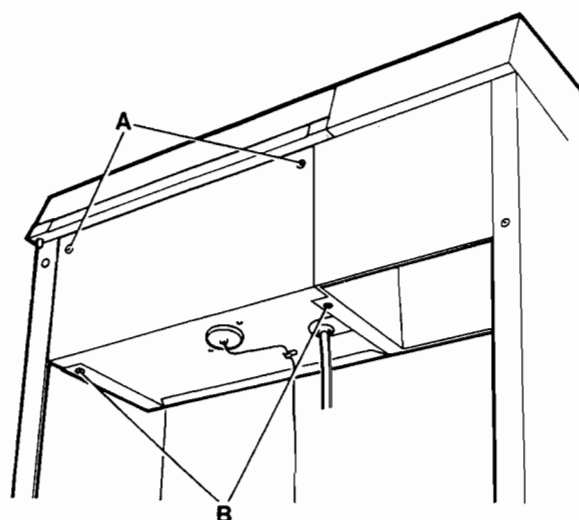

Fig. 2
- 4.5. Remove the two screws, A, Fig. 2, at the front and two screws, B, beneath the wiring centre. Slide out the wiring panel. Disconnect the 3-way connector on the burner lead and slide out the cable clamp from the panel.